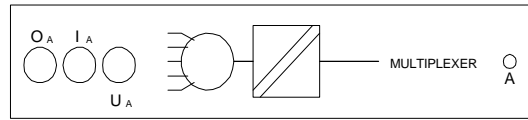

Figure A3: Isolation Amplifier
9. **ISOLATION AMPLIFIER FOUR CHANNEL (735 261)** : This module is used in conjunction with an oscilloscope or a computer interface for the potential-free, safe recording of measuring values in low and extra low voltage systems. Figure A3 shows the module configurations for Channel A in the isolation amplifier. Each channel has a similar configuration.